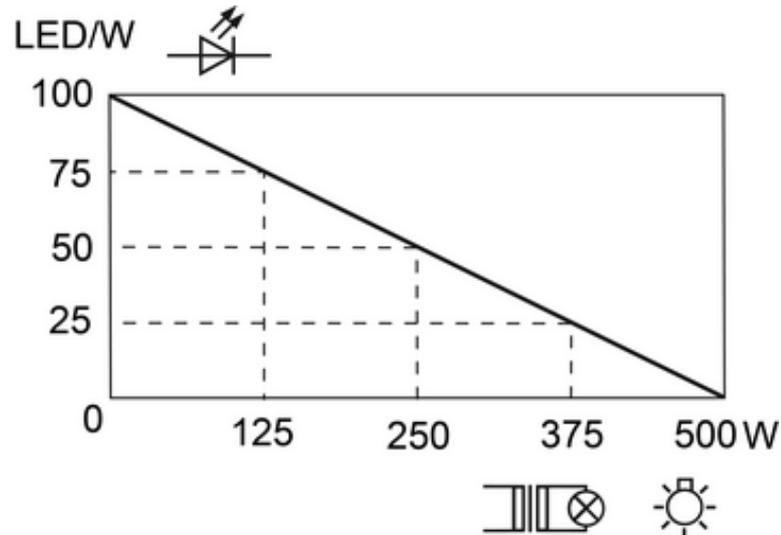

Figure 4: Load curve of mixed loads
- i** Mixed-load operation of LED lamps or compact fluorescent lamps with other permissible loads possible. Note load curve (Figure 4).